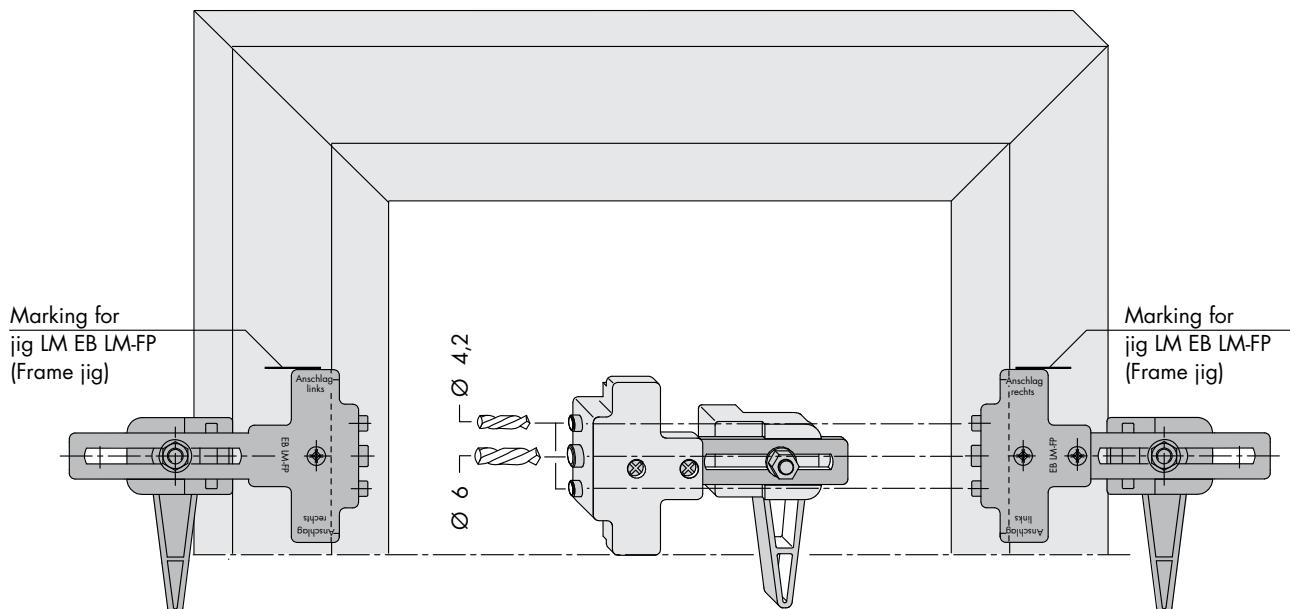

Figure 2
12. Position jig LM EB LM-PF and fix in place (see Figure 2).
13. Drill holes $\phi 4.2$ and hole (6) (see Figure 2).